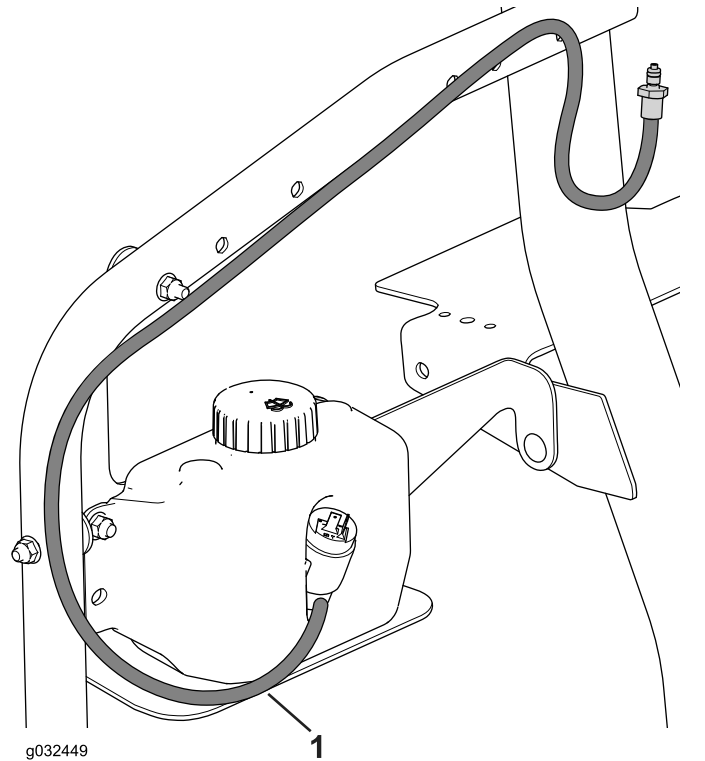

Figure 32
5. Connect the washer tube to the washer bottle and secure it to the frame with cable ties (Figure 32).